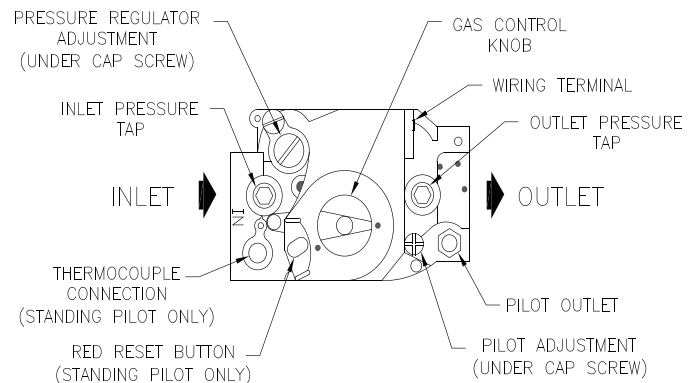

Figure 10: Top View of Honeywell Gas Valves
9. Loosen or remove Inlet Pressure Tap Plug in Combination Gas Valve and when purging is complete, tighten or replace plug. (See Figure 10).
3. With boiler off, water Manometer or water column gauge should be connected to a shut-off valve installed in the 1/8" outlet pressure tap in the gas valve (See Figure 10). By installing gas valve upstream of manometer, gas pressure can be introduced gradually - without shut-off valve; surge of pressure when boiler is turned on, could blow liquid out of manometer. Replace plug in gas valve when rate check is finished.